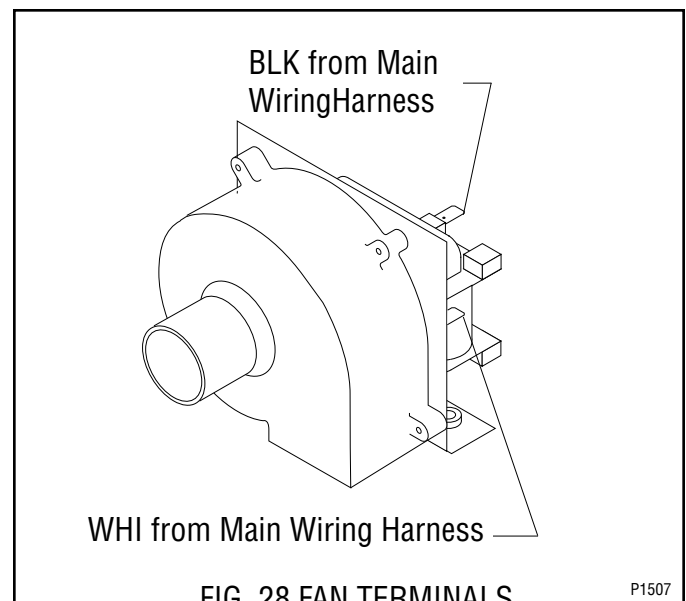

FIG. 28 FAN TERMINALS
4. Refer to Fig. 28 and connect the wires to the new fan.